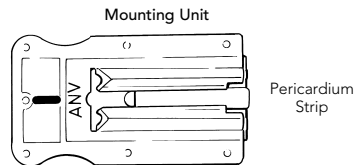

FIGURE 1
**Instruction for Peri-Strips Dry with the following codes: PSD 4502/6-EN, PSD 4502/6-ETSN, PSD 6002/6 - UN (when used with non-cutting stapler), PSD 6002/6-ECH, PSD 6002/6-U-DST, PSD 8002/6-U-DST, PSD 9002/6- PIN, PSD 9002/6-UN, PSD 8002/6-UN, PSD 7502/6-EN, PSD-5502/6 EN, PSD 10002/6- EN, PSD 7502/6-EN and PSD 5502-EN (See figure 1)**